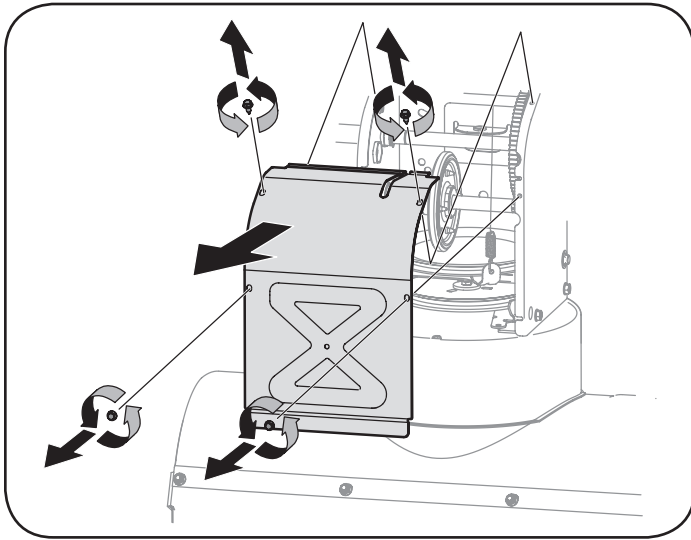

Figure 69
5. Remove the frame cover from the underside of the snow blower by removing four self-tapping screws which secure it. See Figure 69.